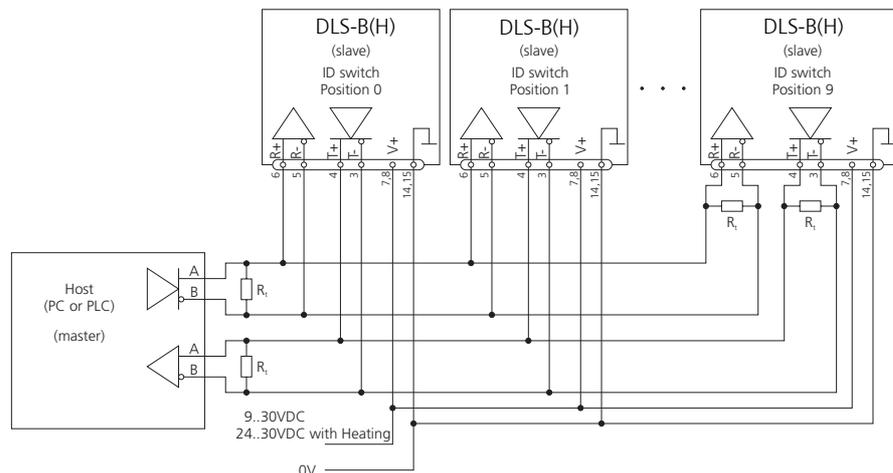

Fig. 5 Connecting multiple devices with RS422
The DLS-B(H) contains two electrically isolated grounds, the general ground (GND) and the analog ground (AGND). GND and AGND are connected to the housing by a RC element. Please see figure 5